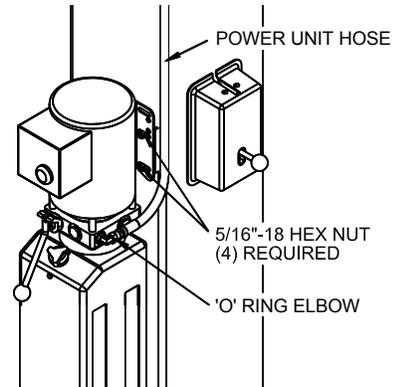

Fig. 10 – Power Unit Mounting
- 25) Mount Power Unit to power column as shown in **Fig. 10**. The mounting hardware, (4) 5/16"-18 hex nuts, are pre-installed on power unit mounting bracket.
- 28) Thread 9/16-18 O-ring elbow (*in hardware box*) into power unit. Attach free end of power unit hose to elbow. See **Fig. 10**. CAUTION do not damage rubber O-ring.